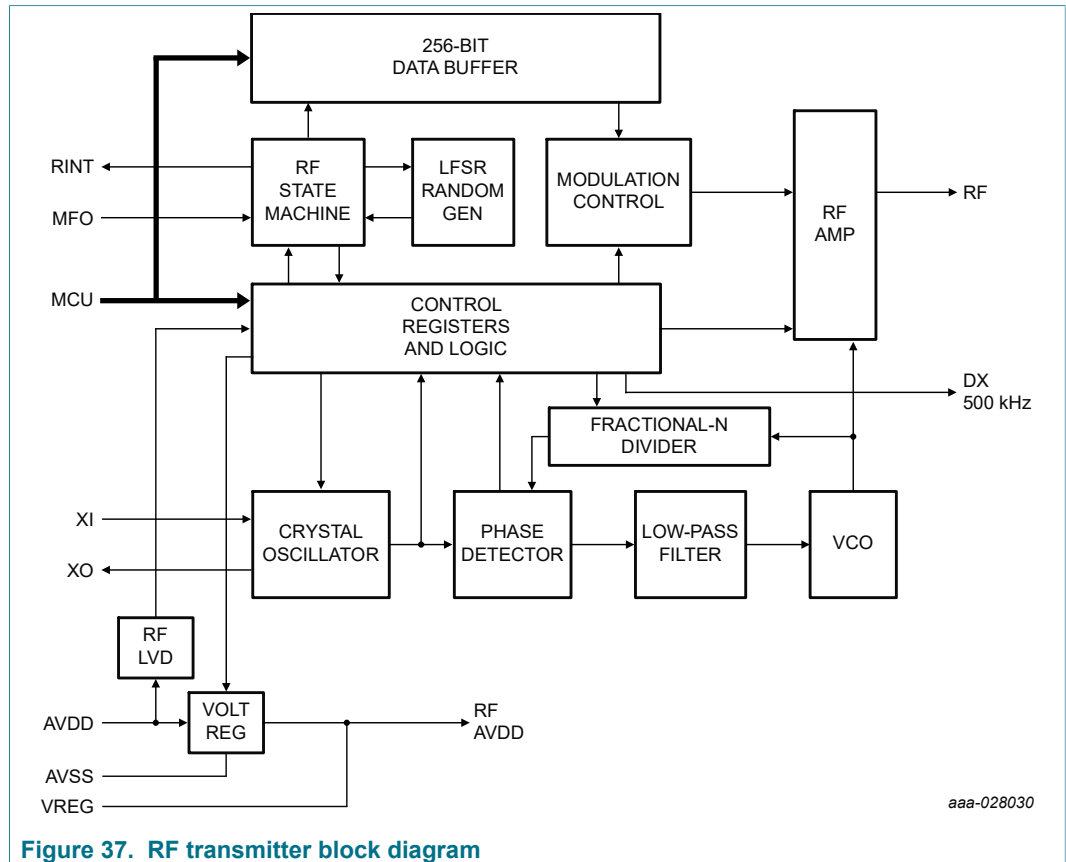

Figure 37. RF transmitter block diagram
The FXTH87E consists of an RF module (RFM) with external crystal-driven oscillator, VCO, fractal-n PLL and RF output amplifier (PA) for an antenna. It also contains a small state machine controller, random time generator and hardware data buffer for automated output or direct control from the MCU. The overall block diagram is shown in Figure 37.